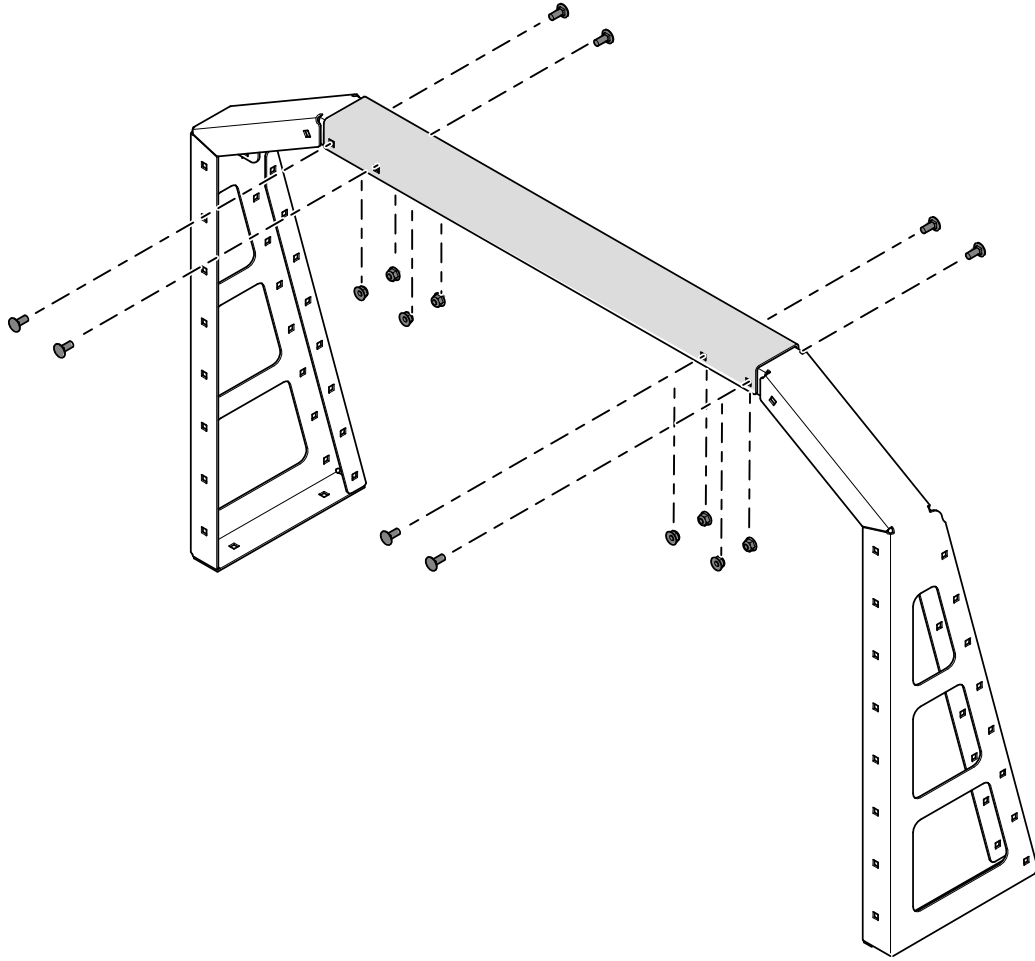

Figure 1
1. Loosely secure the left side rack and right side rack to the center bar using 8 carriage bolts (5/16 x 3/4 inch) and 8 flange nuts (5/16 inch) as shown in Figure 1.